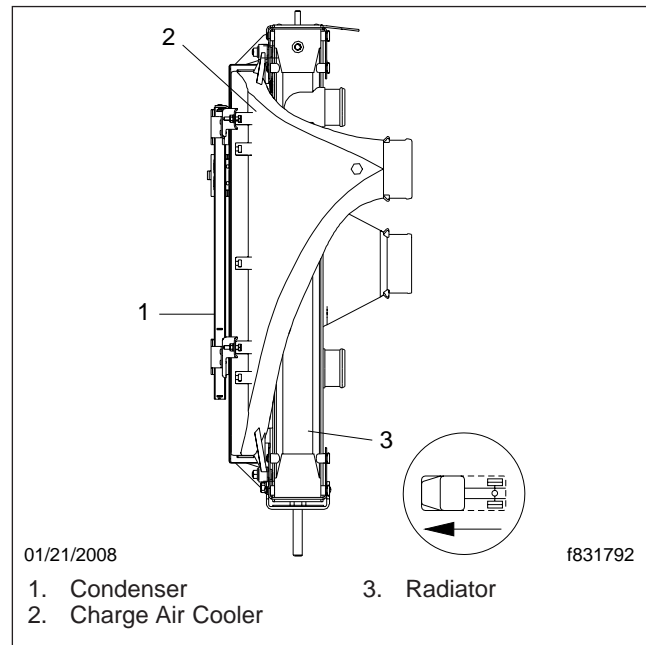

Fig. 3, Large Cooling Package
- **Large Cooling Package:** The condenser is mounted in front of the charge air cooler. See Fig. 3.